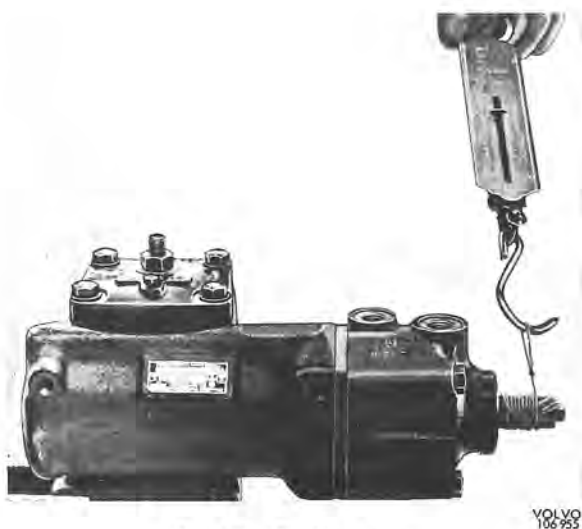

Fig. 6-86. Checking torque
13. Fit the needles in the bearing (14). Place the O-ring (15) on the cover. Fit the cover by screwing up the adjuster screw (11) until the cover is in position. For the moment fit a nut (17). Insert the washers (20) and bolts (19). The tightening torque is 31 Nm (22 lbft). Fit the protective cover (51).
14. Fit the sealing ring (2) with the help of tool 4028. Fit the circlip (1) in position. Remove the tape.
15. Rotate the steering spindle to one of the end positions. Check the requisite turning torque about 1/2 turn from the end position (Fig. 6-86). Adjust the steering spindle to the middle position. Screw in the adjuster screw (11) so that a noticeable pressure point is obtained. Measure the torque and adjust so that the balance gives a reading of 45—60 N (10—13 lb) greater than at the end position, but maximum 185 N (40 lb).